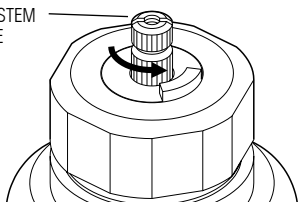

Figure 4A
Figures 4A through 4C
Step 3 — Install Extended Lip Stop (Figures 4A through 4C)
Rotate the Cartridge Stem counterclockwise until it stops. Refer to Figure 4A. It is important that the Cartridge Stem remains in this position when installing the Extended Lip Stop.